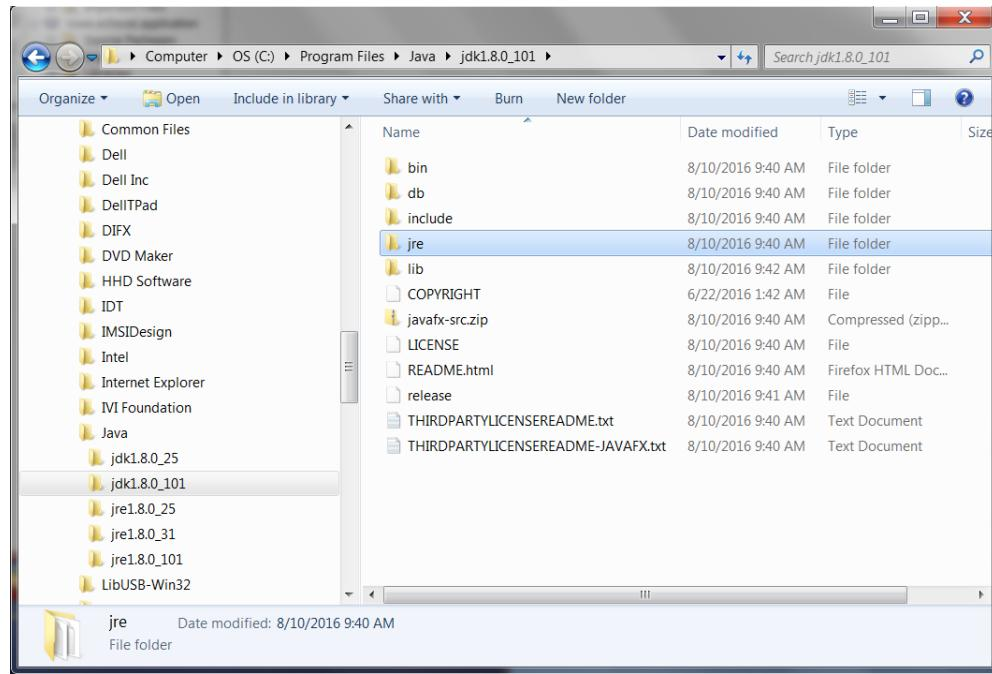

Figure 33: Java Development Kit (JDK) Folder.
- In Windows Explorer, navigate to the Java Development kit (JDK) that was used to develop the application. In this example, navigate to the “C:/ProgramFiles/Java/jdk1.8.0_101/” (Figure 33).